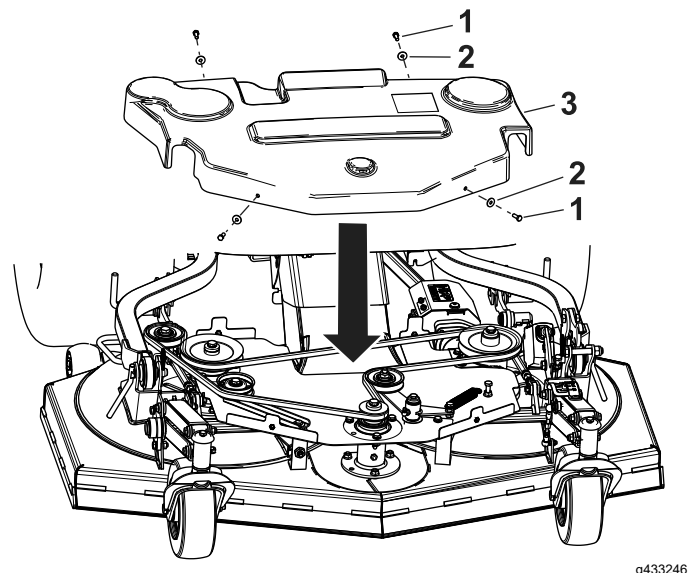

Figure 94
1. Remove the 2 bolts and washers on the front of the cover (Figure 94).
2. Remove the 2 bolts and washers on the back of the cover (Figure 94).
1. Install the cover over the belt Figure 94.
2. Install the 2 bolts and washers on the front of the cover (Figure 94).
3. Install the 2 bolts and washers on the back of the cover (Figure 94).